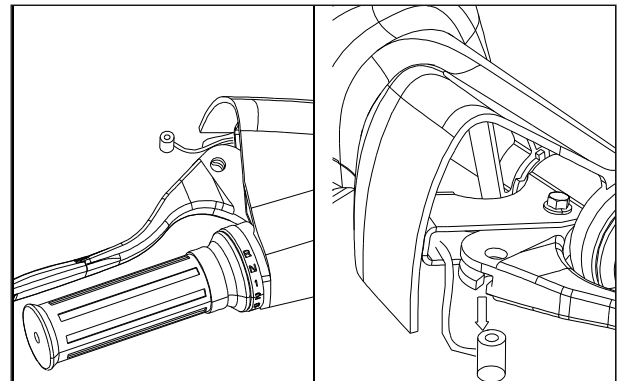

Fig. 5.10
- Disconnect cable inner clutch from lever assembly clutch and pull it out from the lever assembly clutch. (Fig. 5.10)